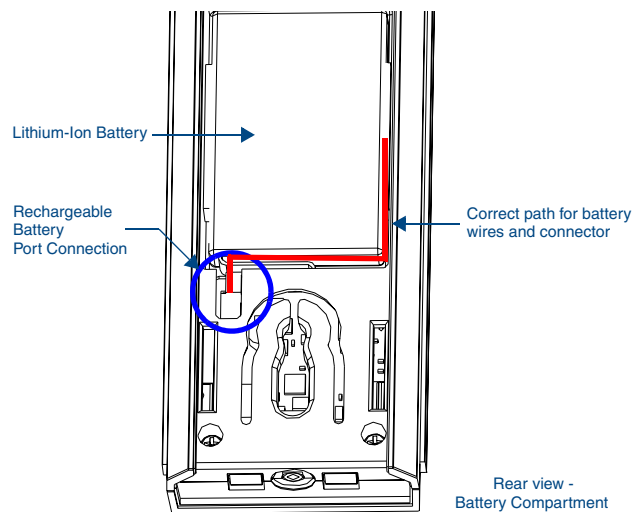

FIG. 2 Rechargeable Battery Port on The Mio Remote
3. Connect the terminal end of the Lithium-Ion battery to the port as shown in FIG. 2. It may be necessary to use a thin, blunt, non-conductive object to seat the battery connector fully within its port.
Make sure to inset the battery wires in the case as shown in FIG. 2, or the wires may be damaged when replacing the battery door.